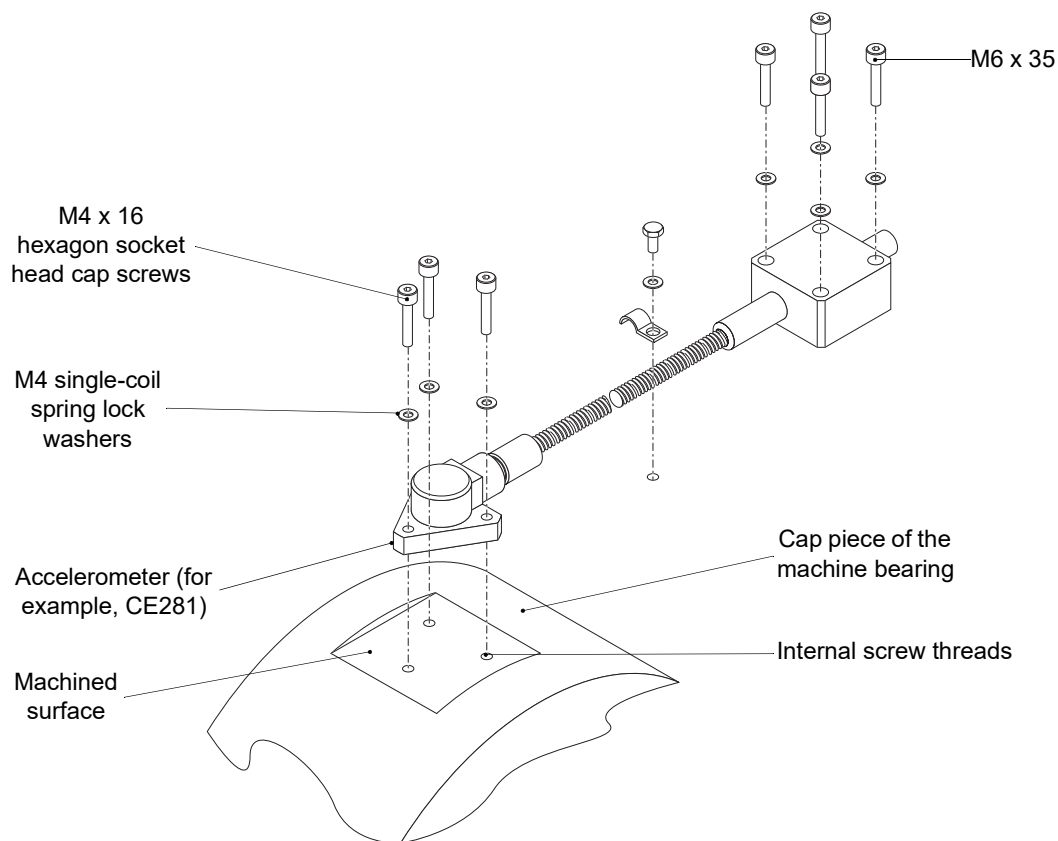

Figure 2-5: Mounting CExxx piezoelectric accelerometers on a machined surface
This mounting procedure is similar, regardless of the type of piezoelectric sensor (see Figure 2-5 for an overview).
- 3- Position the piezoelectric accelerometer on the mounting surface (see Figure 2-5).
- 5- Fix the piezoelectric accelerometer to the machine surface using a torque wrench (see Figure 2-5).